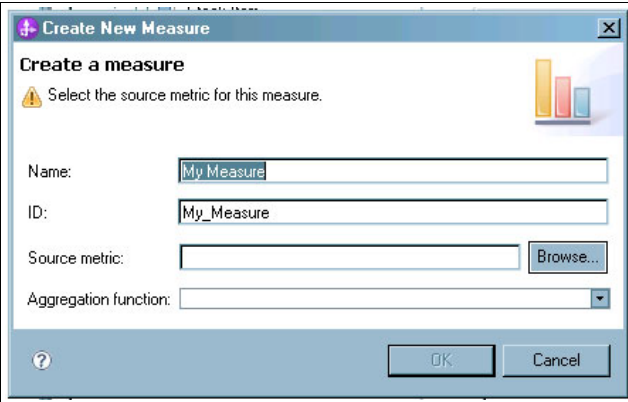

Figure 8-72 Create measure
12. Right-click the Customer cube and select **New Measure**. See Figure 8-72 on page 276.